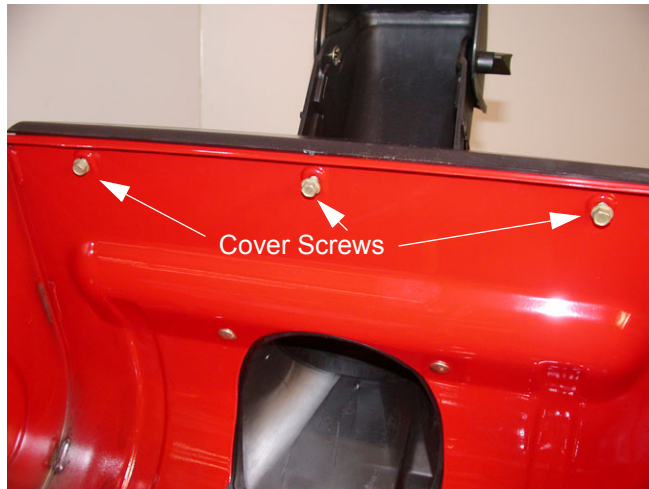

Figure 19
- 11.1. Remove the three screws from the inside top of the auger housing using a 3/8" socket and ratchet. See Figure 19.